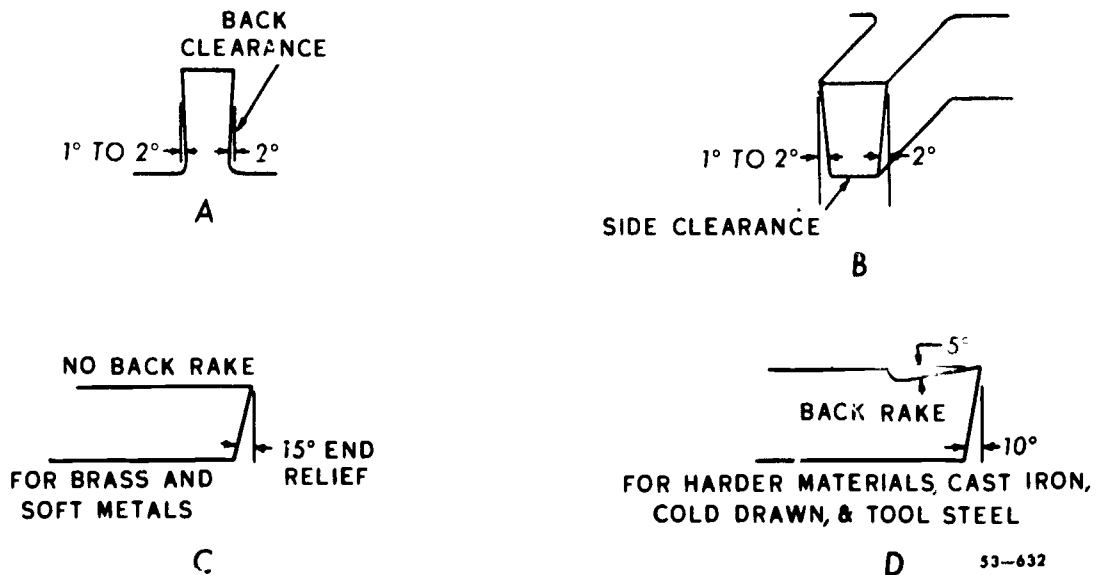

Figure 5-37. Parting tool rake and clearance angles.
*Parting tool geometry.* The general shape of parting tools is the same for all three types. They are ground so that the cutting edge is the widest part of the tool. Grind both sides of the tool with  $1^\circ$  to  $2^\circ$  of back clearance of flank relief, figure 5-37, A, and  $2^\circ$  side clearance, figure 5-37, B. Back rake is usually eliminated. The end relief should be approximately  $15^\circ$  for parting soft metal, such as brass (figure 5-37, C). For steel and harder metals a back rake of about  $5^\circ$  gives free cutting action and helps to curl the chip, and the end relief should be approximately  $10^\circ$  (figure 5-37, D). In order for the tool to have maximum strength, the length of the cutting portion of the blade should be only slightly greater than half the diameter of the work to be parted.
**Exercises (260):**